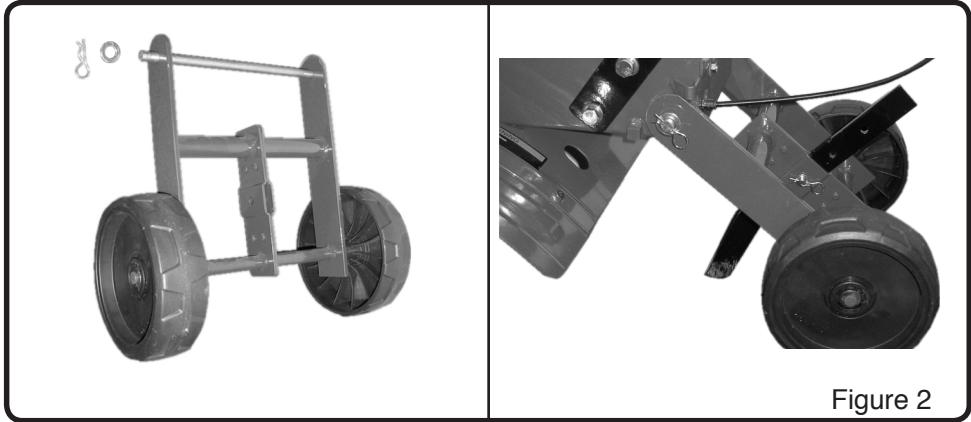

Figure 2
1. Install the wheel assembly to the frame by removing a hairpin cotter and flat washer from one end of pivot rod. Remove rod. Align pivot holes in wheel assembly to pivot holes in frame. Install pivot rod and secure by reinstalling flat washer and hairpin. (See Figure 2)